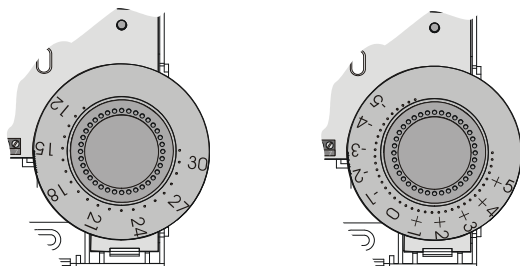

Fig. 4. Mounting position of setpoint dial
6. (T7460B,C,D,E,F only) Make sure that the dial's position is such that the 30 (Celsius absolute scale) or the +5 (Celsius relative scale) point to the right-hand side of the wall module (see Fig. 4).